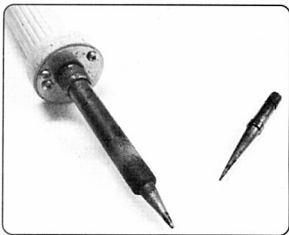

Fig 3 - Soldering Iron and Tip suitable for SMT
- All sorts of SMT soldering jobs can be done with the common Weller workstation. The important point is select the right tip (ie. have several tips on hand). As with any soldering job, the general idea is to have the joint up to temperature and soldered in a few seconds. Think about how much of a "heat sink" the joint will be and choose the tip based on that. Use of larger tips should be limited to areas of large solid copper plane (ie. ground plane). For all jobs, except very small parts, I use the common Weller PT-8 7 tip as shown in Fig 3. With practice, you will learn what tip suits you best.